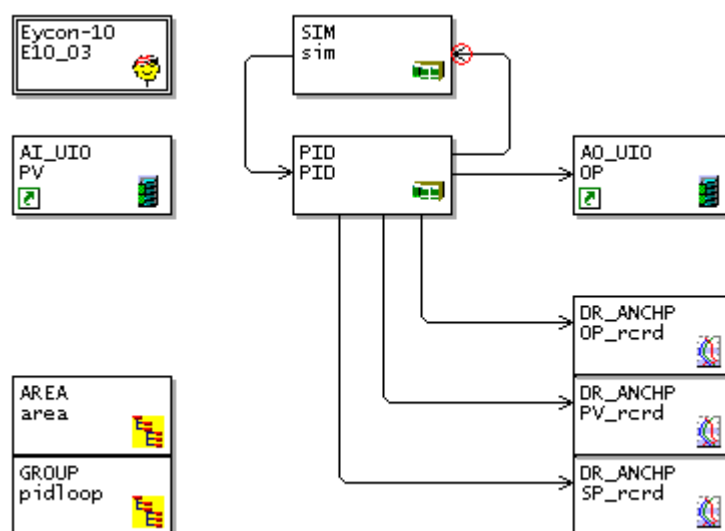

Figure 2-3a Testing the PID control loop strategy
- 2 Place a SIM simulation block on the worksheet, as shown in Figure 2-3a. (SIM blocks are in the **Control** function block category.)